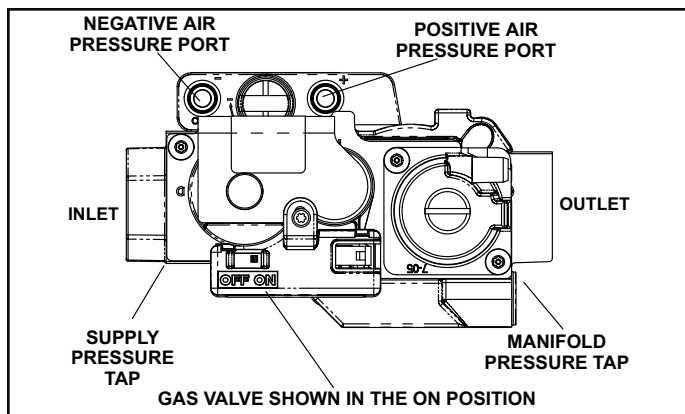

Figure 51. Gas Valve
6. Move the gas valve switch to the OFF position. See Figure 51.
8. Move gas valve switch to the ON position. See Figure 51. DO Not force.